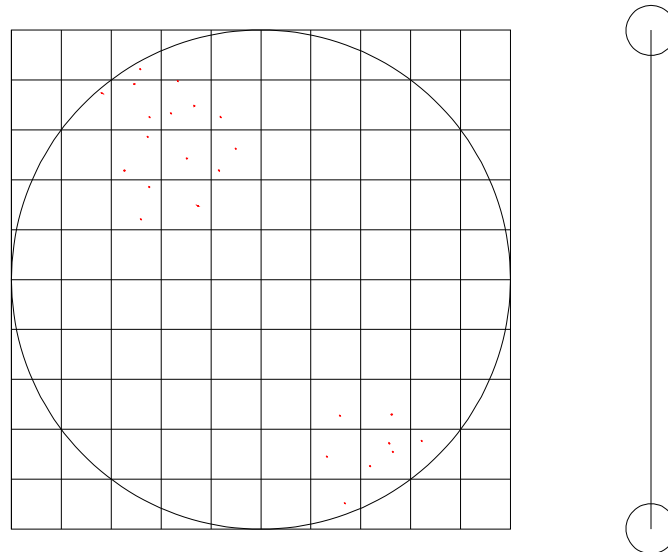

Figure 6: Left: Schmidt net inscribed in the square.
- Two small circles with diameter equal to the length of the side of each small square are drawn, which are connected in between them with a line, with length equal to the big square, creating the shape showed on the right of figure 6.